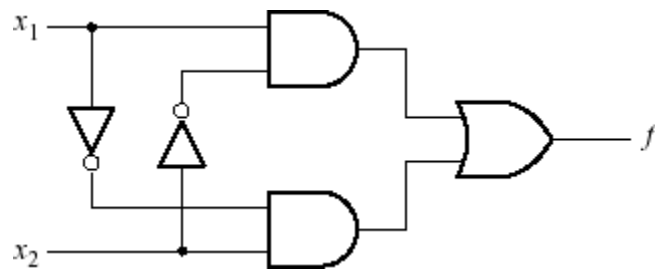
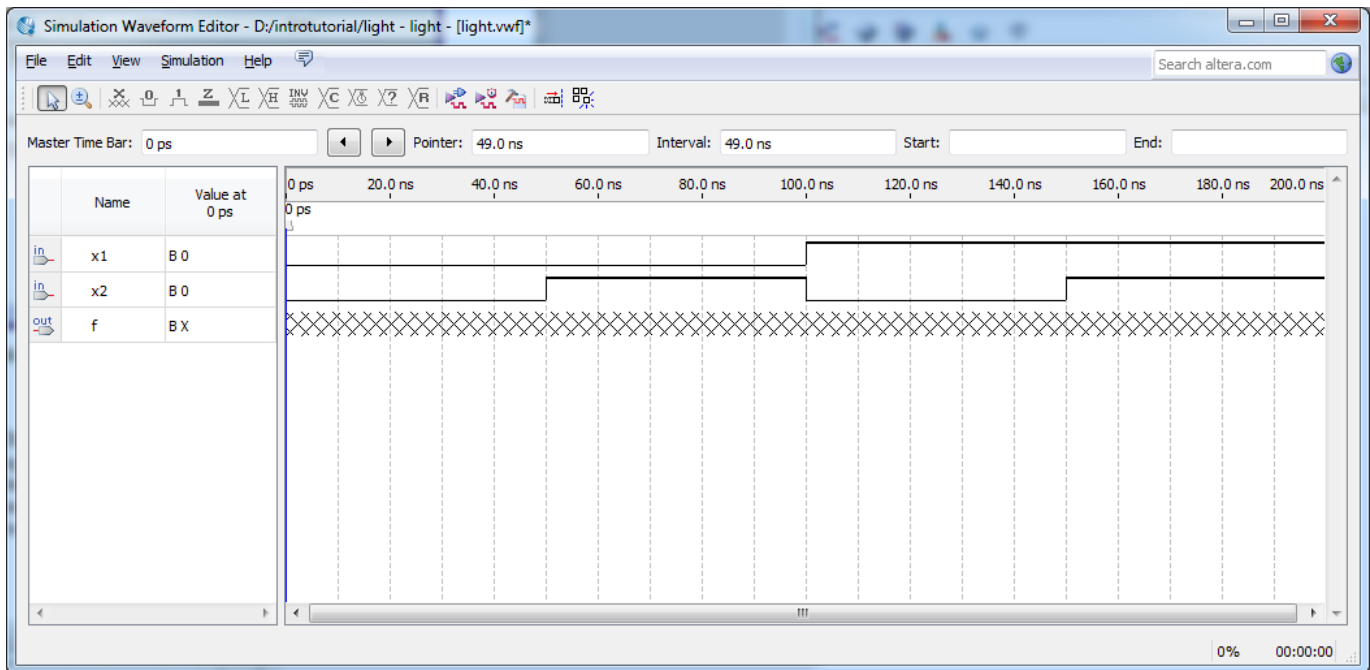

Figure 9: The light controller circuit
Figure 23: Setting of test values
As a design example, we use the two-way light controller circuit shown in Figure 10. The circuit can be used to control a single light from either of the two switches,  $x_1$  and  $x_2$ , where a closed switch corresponds to the logic value 1. The truth table for the circuit is also given in the figure. This is just an Exclusive-OR function of the inputs  $x_1$  and  $x_2$ , but we will specify it using the gates shown in Figure 9.
To simulate the behavior of a large circuit, it is necessary to apply a sufficient number of input valuations and observe the expected values of the outputs. In a large circuit the number of possible input valuations may be huge, so in practice we choose a relatively small (but representative) sample of these input valuations. However, for our tiny circuit we can simulate all four input valuations given in Figure 9. We will use four 50-ns time intervals to apply the four test vectors. We can generate the desired input waveforms as follows. Click on the waveform name for the *x1* node. Once a waveform is selected, the editing commands in the Waveform Editor can be used to draw the desired waveforms. Commands are available for setting a selected signal to 0, 1, unknown (X), high impedance (Z), don't care (DC), inverting its existing value (INV), or defining a clock waveform. Each command can be activated by using the **Edit > Value** command, or via the toolbar for the Waveform Editor. The Edit menu can also be opened by right-clicking on a waveform name.
Set *x1* to 0 in the time interval 0 to 100 ns, which is probably already set by default. Next, set *x1* to 1 in the time interval 100 to 200 ns. Do this by pressing the mouse at the start of the interval and dragging it to its end, which highlights the selected interval, and choosing the logic value 1 in the toolbar. Make *x2* = 1 from 50 to 100 ns and also from 150 to 200 ns, which corresponds to the truth table in Figure 9. This should produce the image in Figure 23. Observe that the output *f* is displayed as having an unknown value at this time, which is indicated by a hashed pattern; its value will be determined during simulation. Save the file.